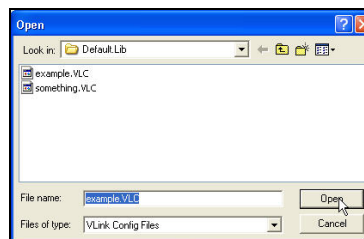

Figure 24: Loading Configuration
- e. Browse to the location of the .VLC files and load the configuration for Channel 1 by selecting a file and clicking **Open**. Refer to **Figure 24**.